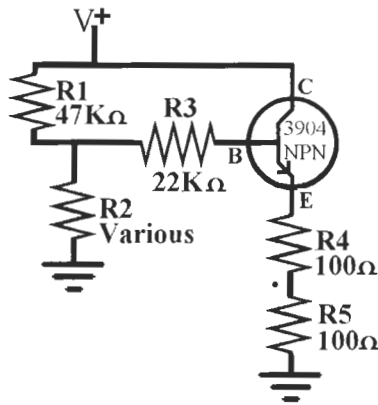
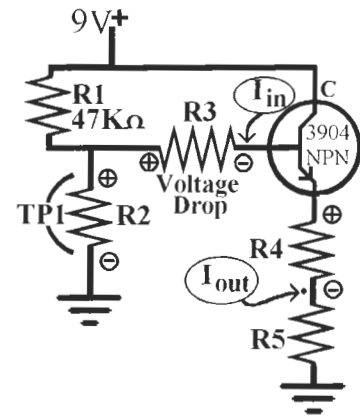

Figure L47-1
Figure L47-2
Set up a modified version of the night light circuit. The schematic in Figure L47-1 shows a few changes needed to calculate the gain of the NPN 3904 transistor.
4. In Figure L47-2, R4 and R5 make a voltage divider. Measuring the voltage drop across R4 makes it an easy task to calculate the current available at the emitter (output).
- 6. Now, using the schematic in Figure L47-2, use the values shown for R2. R2 is the only resistor that changes values. R3 keeps the 22 k Ω value shown in Figure L47-1 (see Table L47-3).